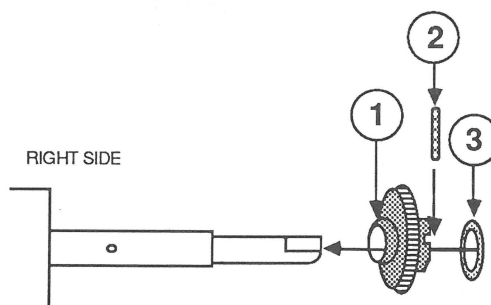

FIGURE 37
2. Assemble the right side of the platen (Figure 37). Slide the drive gear (Figure 37, #1) into position and insert the pin (Figure 37, #2). Slide the platen spring into position (Figure 37, #3).